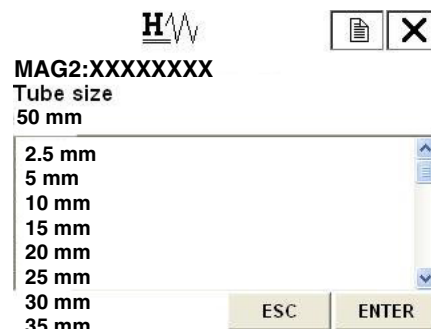

Figure 77.
Figure 77 is then displayed.
- Once the display as shown in Figure 77 appears, move the arrow key up or down to select a flowtube diameter. After making a selection, press F4 (ENTER). If F3 (ESC) is pressed here, the selection is canceled and the display returns to the flowtube config menu.